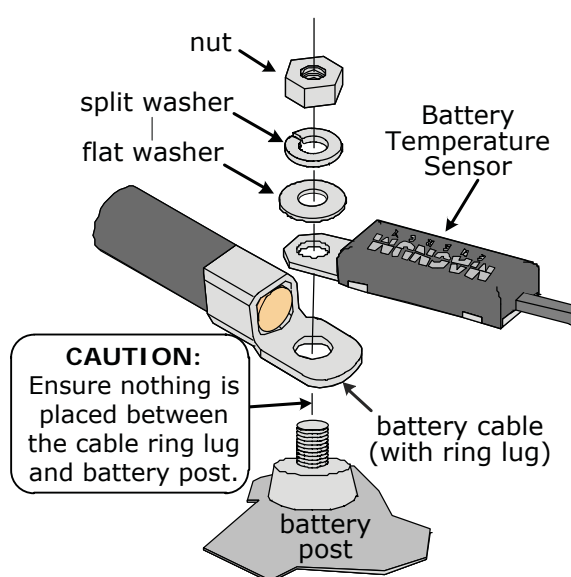

Figure 2-5, Battery Hardware Installation
Refer to Figures 2-5 and 2-6 to connect the DC cables and to stack the hardware correctly. Tighten the terminal connections from 10 to 12 ft lbf (13.6 to 16.3 N-m).
1. Attach the ring terminal end of the Battery Temperature Sensor to the negative battery terminal; see Figure 2-5 for proper connection to the battery terminal.
Ensure the DC wire connections (on the batteries, inverter, and DC circuit breaker/fuse lugs) are flush on the surface of the DC terminals, and the hardware (lock washer and nut) used to hold these connections are stacked correctly (see Figures 2-5 and 2-6). Verify all DC connections are torqued from 10 to 12 ft lbf (13.6 to 16.3 N-m).